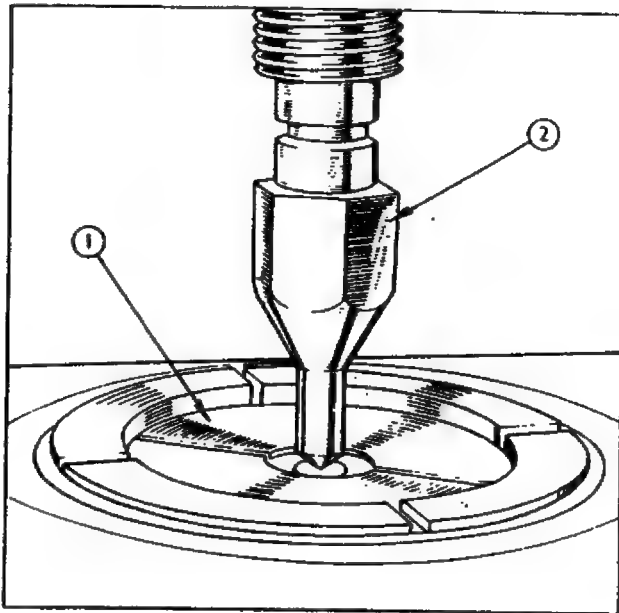

Fig. 8
2. Remove the pump pulley from the shaft, using the split ring (CPT.8000—2 detail "a") assembled around the boss on the front of the pulley. The centre screw adaptor (CPT.8000—3 detail "d") must also be used to push against the centre of the shaft (see Fig. 8).